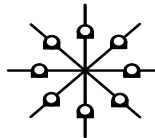

Figure 14 -
- 2.202** Position light PB Indicators of the type shown in Figure 14 are located in advance of the PB sign.